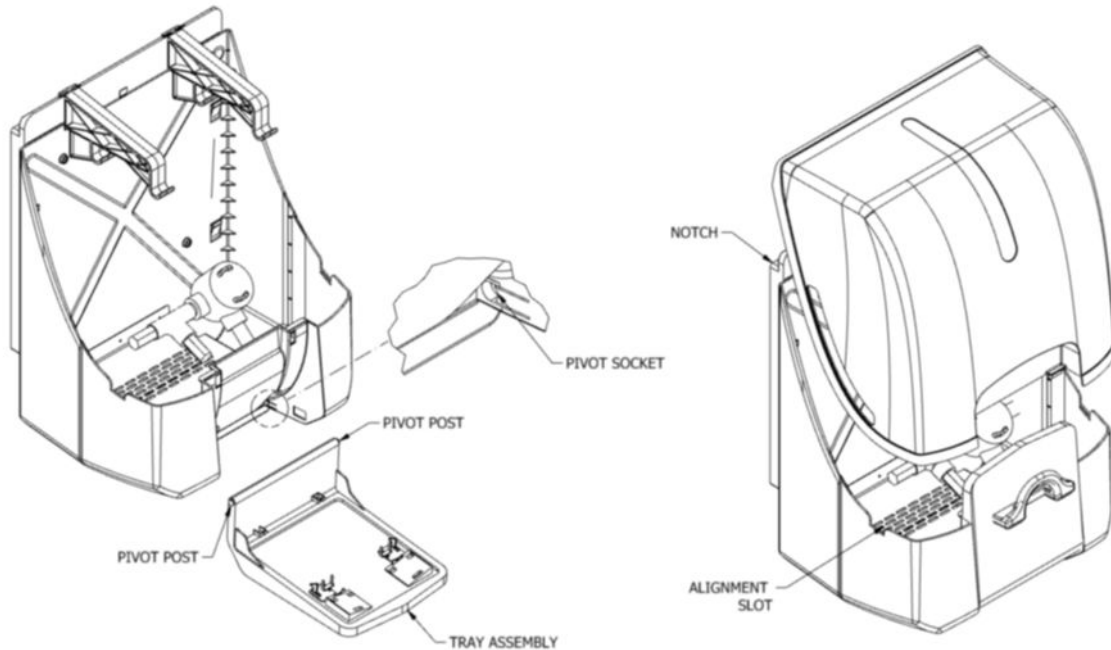

FIGURE 13
Step 4. Tray Assembly (Ref Figure 13) *Lower Insulated Jacket not shown for clarity.*
Step 5. Lid Assembly (Ref Figure 13) *Lower Insulated Jacket not shown for clarity.*